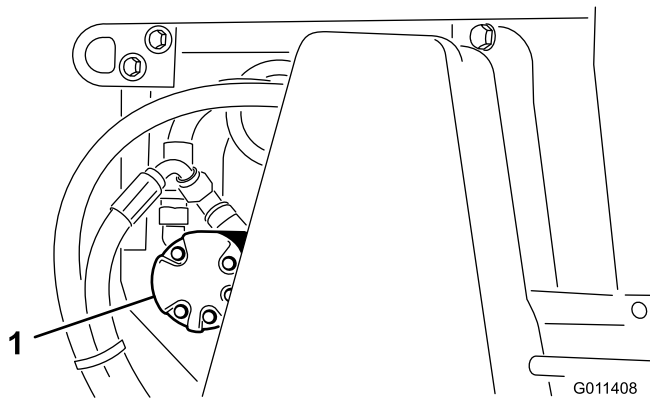

Figure 23
2. Loosen nuts securing brush motor (Figure 23) to left side of machine.